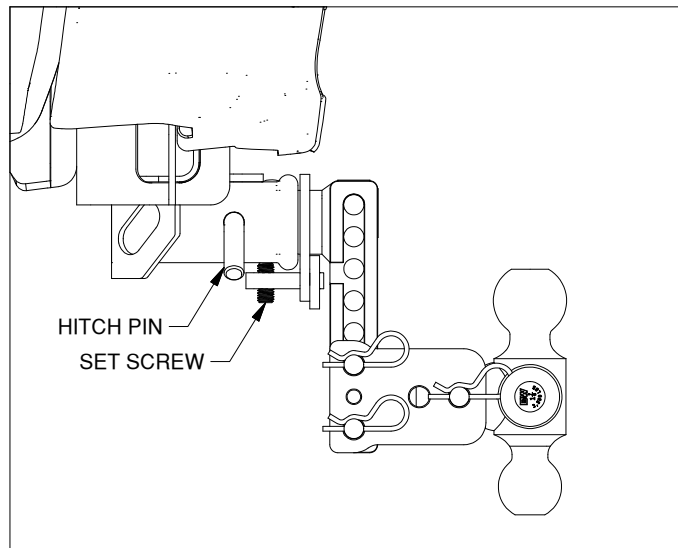

Figure B3: Towing accessory installation.
5. **Secure the silencer:** Push the clamp strap against the receiver. Securely tighten the set screw under the receiver, see Figure B3.